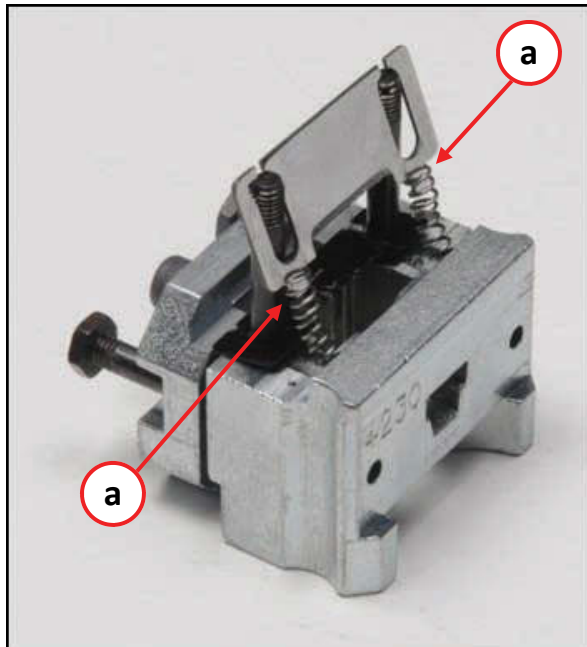

Figure 13
- 6) Raise Blade over the guide posts per Figure 13 and disengage Blade Tabs (a) from Blade Return Springs.